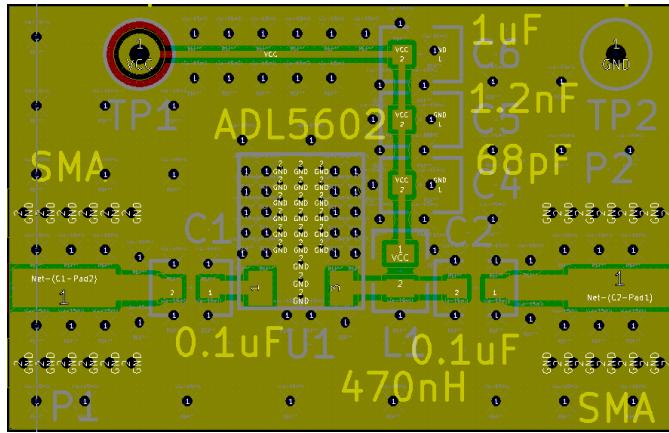

Figure 48: Layout of the example 2 circuit after via stitching.
5. In the Pcbnew, click the “Add footprints” button and click on the main layout window to insert a footprint directly. Select the “via-15mil” footprint and place it along the edges of the copper fill. For via fences around RF traces, a rule of thumb is to set the via spacing no larger than 1/20th of the propagation wavelength. Obviously you also need to make sure that the via spacing is not too small as to violate the design rules of the PCB manufacturer. Fig. 48 shows the layout after the via stitching.